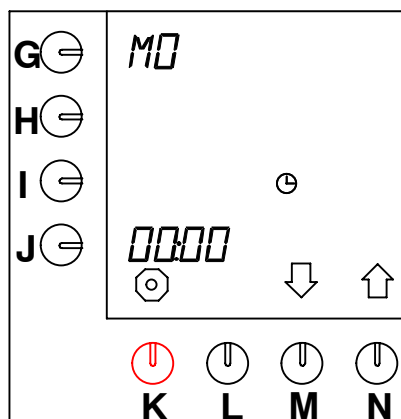

Fig. 42 Current day and time
- Press selection key (N.)↑ until fig.42 (Current day and time) appears on the display.
- The hours setting beside the programming key starts flashing (fig. 42 ).